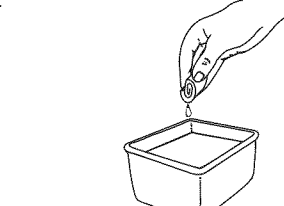

Fig. 35
- Wash the filter in detergent and water (Fig. 35). Rinse the filter thoroughly and allow it to dry.